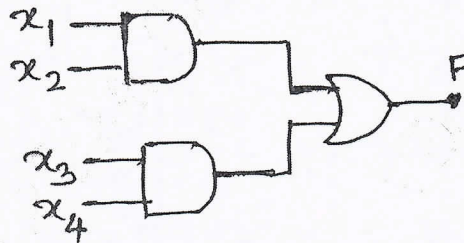

Fig.Q.7(b)
- b. Consider the logic circuit shown in Fig.Q.7(b) find Boolean difference with respect to x_3 .